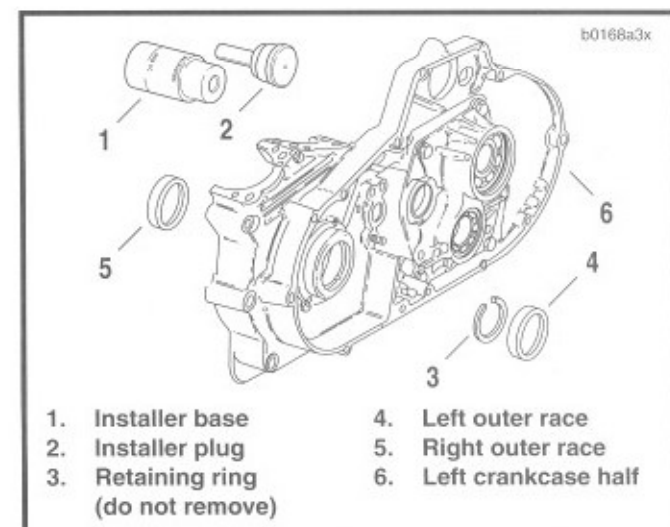

Figure 3-97. Installing Sprocket Shaft Bear Outer Races
See Figure 3-97. Use **SPROCKET SHAFT BEARING OUTER RACE INSTALLATION TOOL (1, 2)** (Part No. HD-39458) to install left and right outer races (4, 5) of sprocket shaft tapered roller bearings into left crankcase half (6). Always install left outer race (4) prior to installing right outer race (5) because the installer base (1) is usable only when you follow this sequence of race installation
2. Insert "SPORTSTER" end of installer base (1) into inboard side of left crankcase half (6) bearing bore until base contacts installed retaining ring (3).
3. Position left outer race (4) over bearing bore on outboard side of left crankcase half (6).
4. Insert shaft of installer plug (2) through left outer race (4) and into installer base (1). Press race into bore until firmly seated against retaining ring (3).